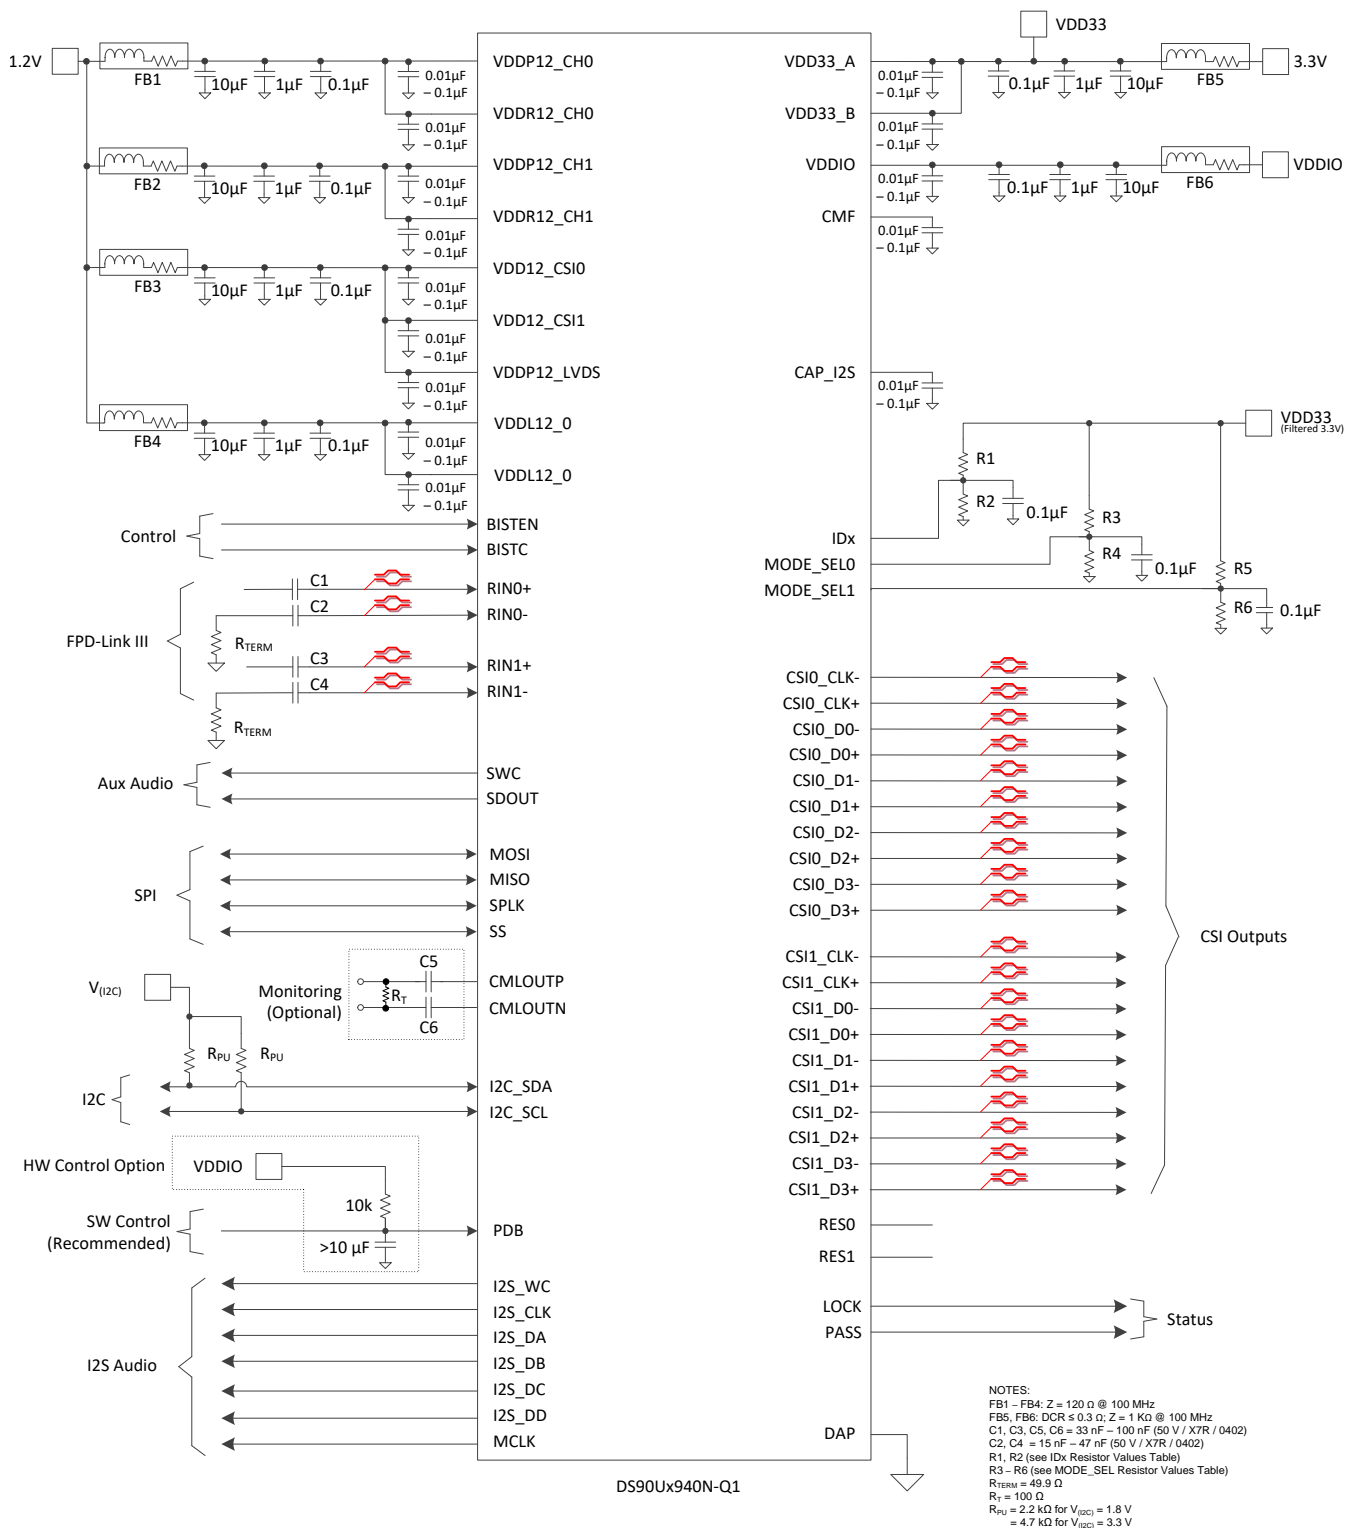

Figure 39. Typical Connection Diagram (Coax)
Bypass capacitors must be placed near the power supply pins. At a minimum, use four (4) 10- μ F capacitors for local device bypassing. Ferrite beads are placed on the two sets of supply pins (VDD33 and VDDIO) for effective noise suppression. The interface to the graphics source is LVDS. The VDDIO pins may be connected to 3.3 V or 1.8 V. A capacitor and resistor are placed on the PDB pin to delay the enabling of the device until power is stable. See Figure 38 for a typical STP connection diagram and Figure 39 for a typical coax connection diagram.